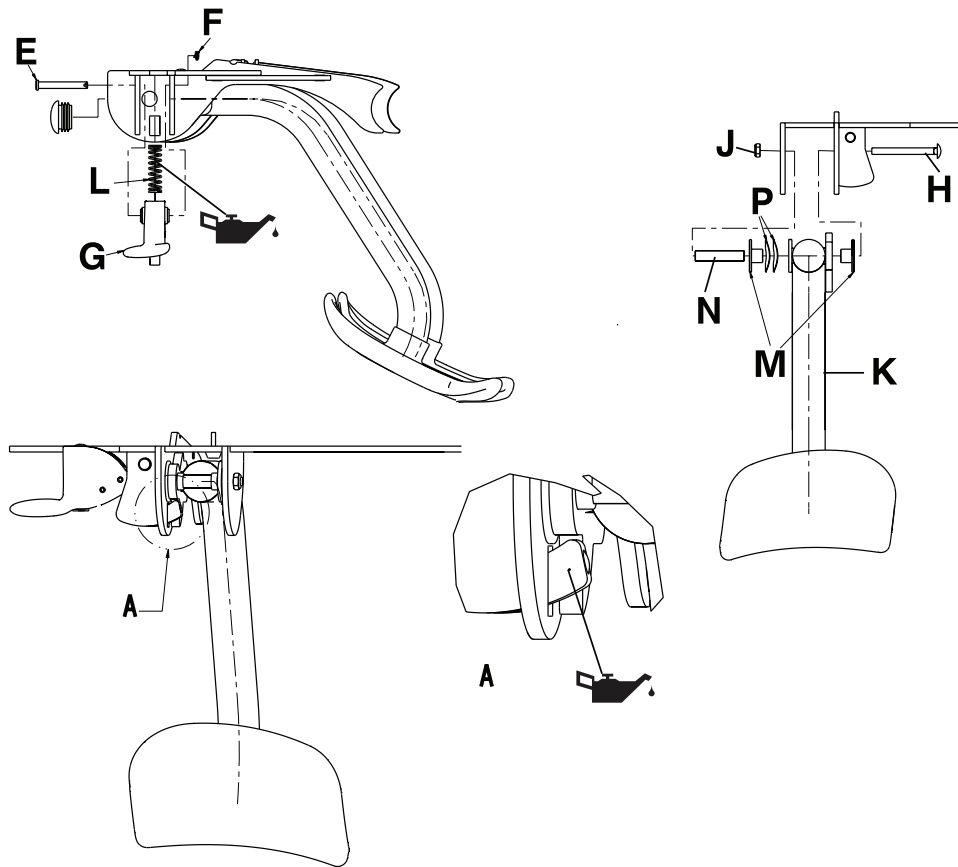

Figure 1-37: Leg rest components
6. Using needle nose pliers, remove rue ring cotter (F) and the clevis pin (E) that secure the leg rest latch assemblies (G) to both sides of the leg rest mounting plate weldment (D). Remove the leg rest latch assemblies (G) and compression springs (L) on both sides of the leg rest mounting plate weldment (D) (Figure 1-37 on page 1-55). Save the leg rest latch assemblies, springs, rue ring cotters, and clevis pins.
7. Using a 7/16" open end wrench, remove the nylock hex nut (J) and the bolt (H) that secure the leg rest assembly (K) to the leg rest mounting plate weldment (Figure 1-37 on page 1-55).
8. Remove the two washers (P), two bushings (M), and the leg rest pivot spacer (N) as you remove the leg rest assembly (Figure 1-37 on page 1-55). Save all parts.
- a. Using Syntech grease, lubricate the compression spring (L) and the latch tip (Figure 1-37 on page 1-55), if necessary.
- b. Install the washers (P) on the bushing (M) before putting them on the leg rest assembly.
2. Using a 7/16" combination wrench, tighten or loosen the nylock hex nut (J) in quarter turn increments. (Figure 1-37 on page 1-55).